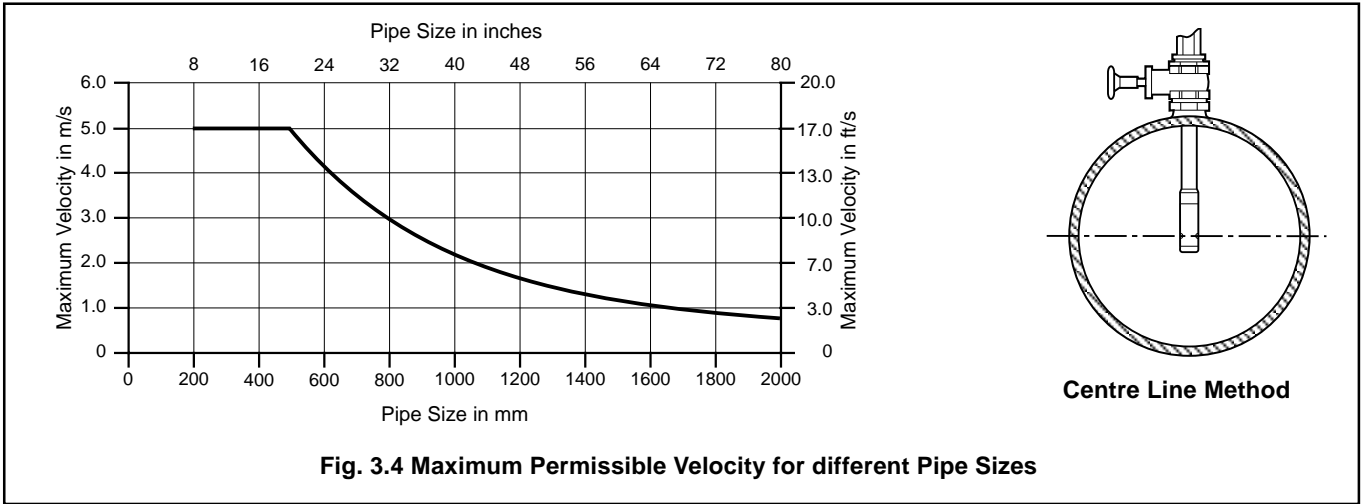

Fig. 3.4 Maximum Permissible Velocity for different Pipe Sizes
3.2.2 Velocity Limitations – Figs. 3.4 to 3.6